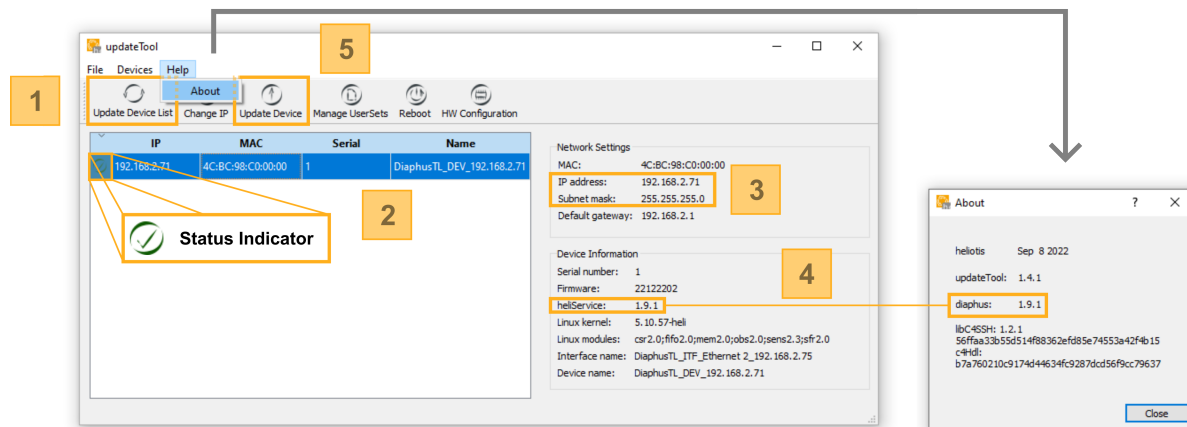

Fig. 2.11: Software Setup Check in updateTool
You may do so by opening the updateTool and pressing the button “Update Device List” to tabulate all available devices in the network (see Fig. 2.11).
- A network configuration mismatch is flagged if the IP addresses of host and heliCam™ C4 are not compatible (see Fig. 2.11).
- ⇒ Install firmware to match C4Utility or vice versa. We recommend installing the latest version of C4Utility and *updating the firmware* accordingly. You can compare the version of the camera-side firmware component heliService (select the camera in the updateTool and the version is displayed on the right-hand side) explicitly with that of the computer-side counterpart Diaphus (found in the updateTool menu under Help/about). This is illustrated in Fig. 2.11.